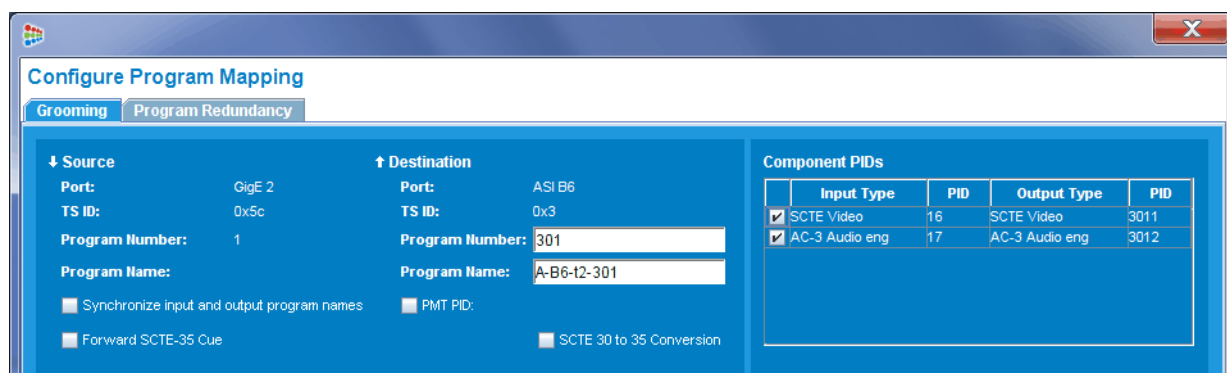

Figure 235. Configure Program Mapping - PIDs & Program changed - DVB-CA
6. Click **OK** to save changes and return to the **Configure Program Mapping** window. (Figure 235)